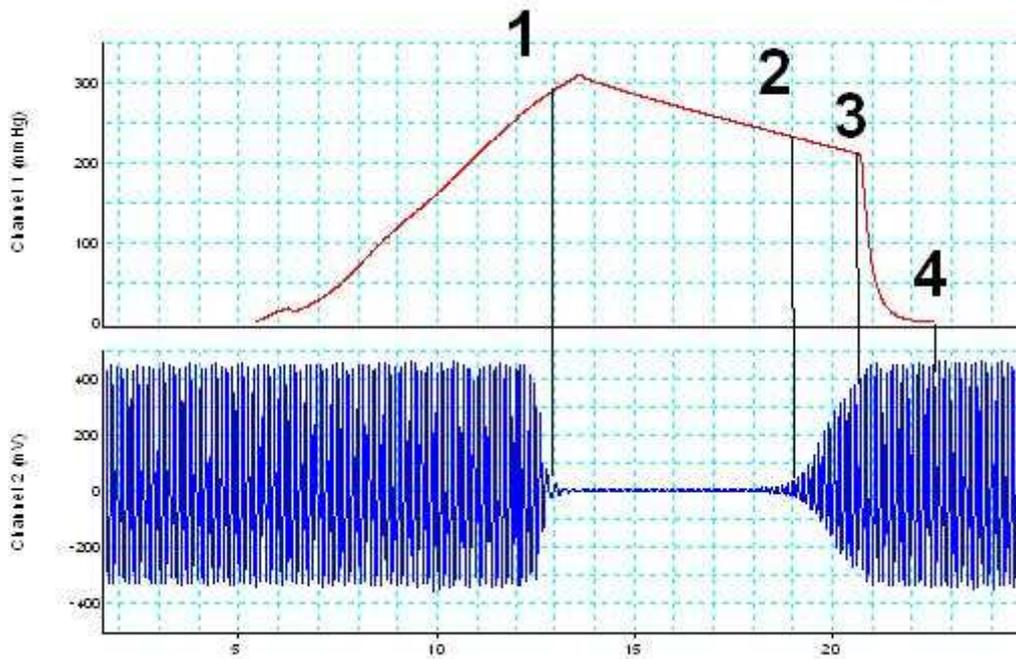

Figure 13. Waveforms in a measurement. Up (pressure) and down (pulses).
Waveforms of Figure 13 have been obtained by connecting CUFF PRESSURE and PULSE WAVE analog outputs to a data logger.
1. As soon as the “START” button is pressed the air pump starts and pressure in the sleeve starts to increase (see Figure 13). As of a certain pressure value, the amplitude of the pulse wave starts to fall and will eventually reach zero (point **1** of the Figure 13). As of this time, and following another brief pressure increase, the latter will start to fall, and the sleeve membrane will deflate. Point **1** is the systolic pressure taken in **UP** mode.